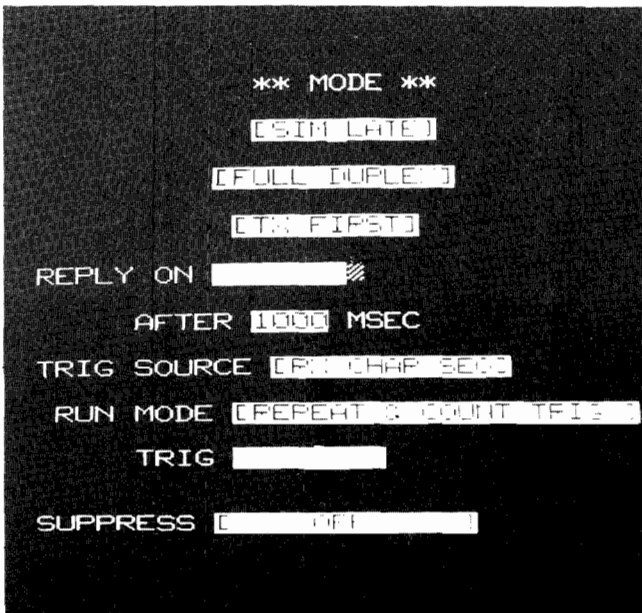

Figure 16-16 1640A Factory Data Link Mode Selection (Simulation Mode)
- 2) Press the MODE key to display the Mode parameters. Configure the Mode as shown in figure 16-16.